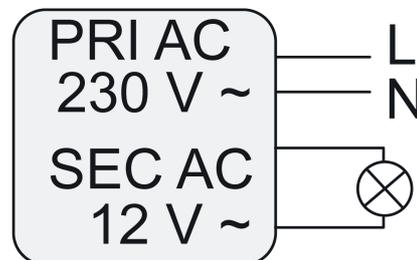
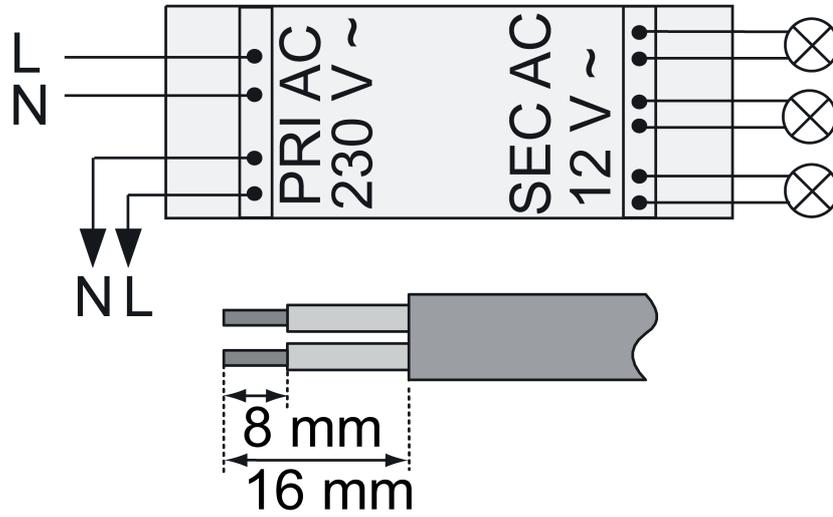
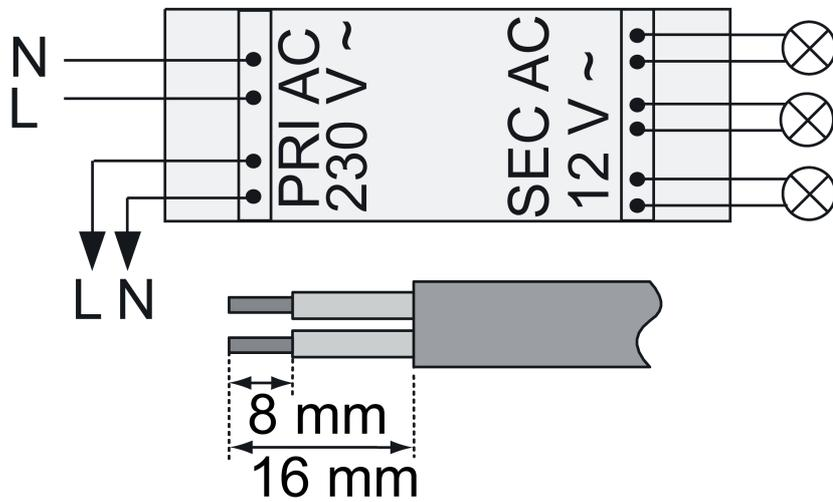
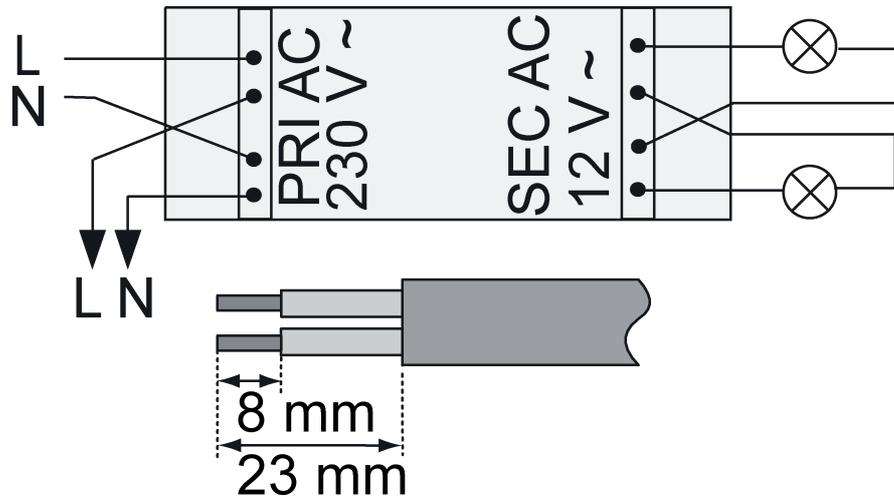

Figure 4
Figure 5
Figure 6
Figure 7
- Connect the Tronic transformer according to the appropriate connection diagram (Figure 3), (Figure 4), (Figure 5), (Figure 7), (Figure 6).